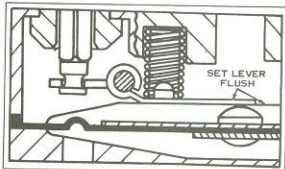

Figure 3-64
9. Inspect inlet needle lever for correct adjustment. It should be flush with surrounding floor of carburetor body. If not equipped with shackled needle, replace with Kit No. 27588-66. Tighten seat to 45 in.-lbs torque. See Figure 3-64.
The inlet control lever must rotate freely on the fulcrum pin and forked end must engage slot in inlet needle (see Figure 3-64). The spring (37) should not be stretched or distorted.